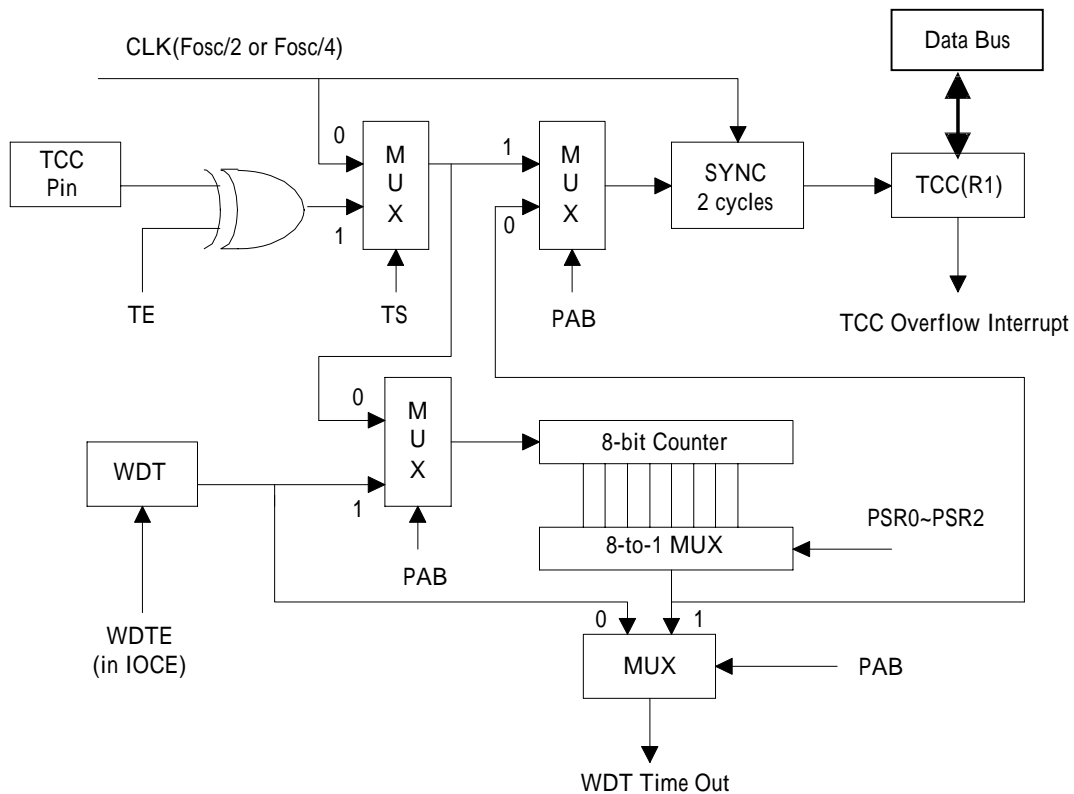

Fig. 5 Block diagram of TCC and WDT
There is an 8-bit counter available as prescaler for the TCC or WDT. The prescaler is available for the TCC only or the WDT only at the same time and the PAB bit of the CONT register is used to determine the prescaler assignment. The PSR0~PSR2 bits determine the ratio. The prescaler is cleared each time the instruction is written to TCC under TCC mode. The WDT and prescaler, when assigned to WDT mode, are cleared by the "WDTC" or "SLEP" instructions. Fig. 5 depicts the circuit diagram .
- R1(TCC) is an 8-bit timer/counter. The clock source of TCC can be internal or external clock input (edge selectable from TCC pin). If TCC signal source is from internal clock, TCC will increase by 1 at every instruction cycle (without prescaler). Referring to Fig. 5, $CLK = F_{osc}/2$ or $CLK = F_{osc}/4$, depends on the CODE Option bit CLK. $CLK = F_{osc}/2$ is used if CLK bit is "0", and $CLK = F_{osc}/4$ is used if CLK bit is "1". If TCC signal source is from external clock input, TCC is increased by 1 at every falling edge or rising edge of TCC pin.